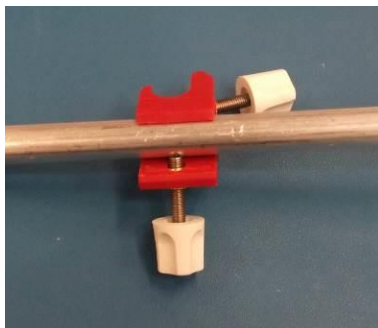

Figure 2. Install a Clamp on a Rod
1. Find a Rod (A) that does not have a set screw. Place it into a Clamp (B) and tighten the Thumbscrew to secure the Rod in place (Figure 2).